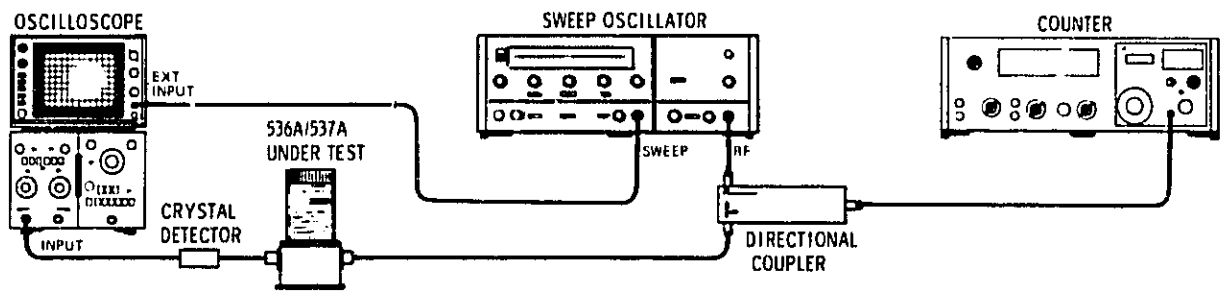

Figure 3. Overall Accuracy Test Setup
1. Connect the equipment as shown in Figure 3.
1. Remove knob (1).
2. Remove base (20) 8 screws; return to upright position and make electrical hookup for overall accuracy check (refer to Figure 3).
3. In the original high-end setting, 4 GHz is set one turn counterclockwise from the stop. The dial (9) is held to the dial holder (11) by two set screws (2). A check is made at 2 GHz, and if not within specifications, the set screws are loosened and a compromise is made between the 2 and 4 GHz settings. The set screws are loosened from inside the dial holder; the dial must be rotated approximately 6 turns before the access holes become visible.